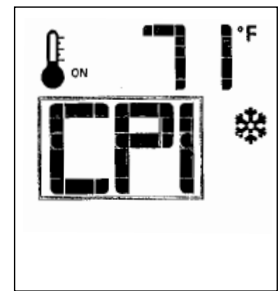

Figure 55. CPI ON.
- With the transmitter in the OFF position, press the transmitter Mode key - IPI is the default mode. Fig. 54. Press the Up arrow to index to the CPI icon and activate the Continuous Pilot Ignition mode. Fig. 55. Pressing the Down Arrow Key will return to Intermittent Pilot Ignition. A single “beep” will confirm reception of the command.